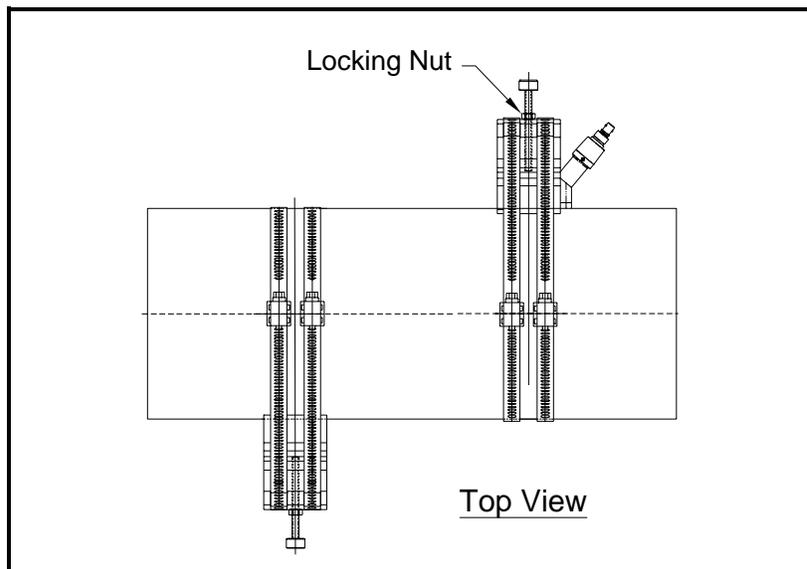

Figure 23: Transducer Orientation
2. Place the transducers in the appropriate blocks. Make sure the transducers are oriented as shown in Figure 23 below.